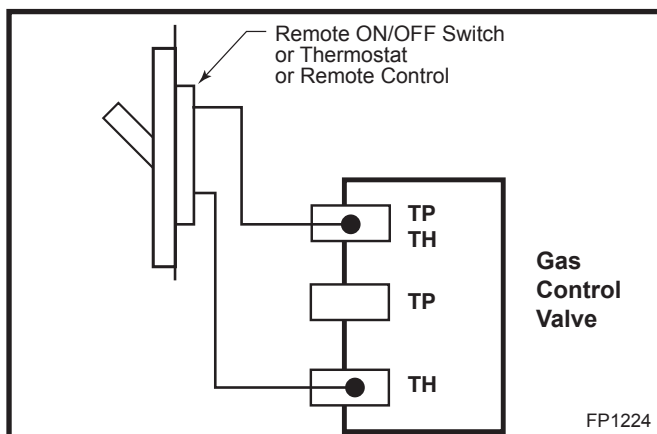

Fig. 8 Remote switch wiring diagram.
- Attach the wire to an ON/OFF switch and install the switch into the receptacle box. (Fig. 8)